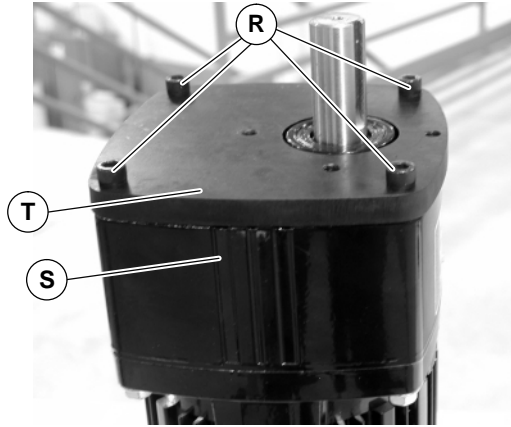

Figure 11
7. Remove four (4) screws (R of Figure 11) and detach motor (S).
8. Install mounting plate (T of Figure 11) on new motor with screws (R) and tighten to 75 in-lbs (8.5 N-m).